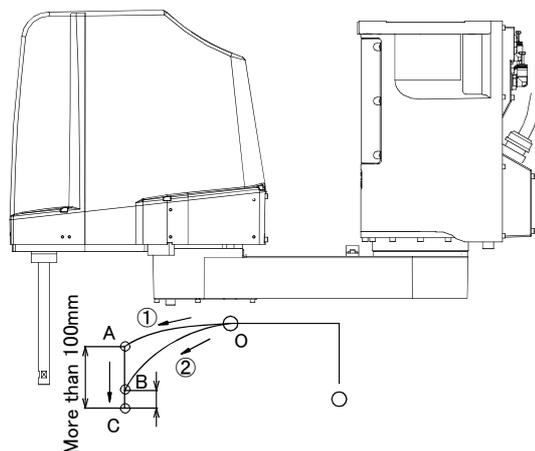

Fig.2-11 : Recommended path when positioning at the bottom edge of the Z axis
- 3) When positioning the work near the bottom edge of the Z axis, if no effectiveness is achieved in step "2" above, perform operation <1> (robot path: O → A → C). In the case of operation <2> (robot path: O → B → C), residual vibration may occur. (Refer to Fig. 2-11.)